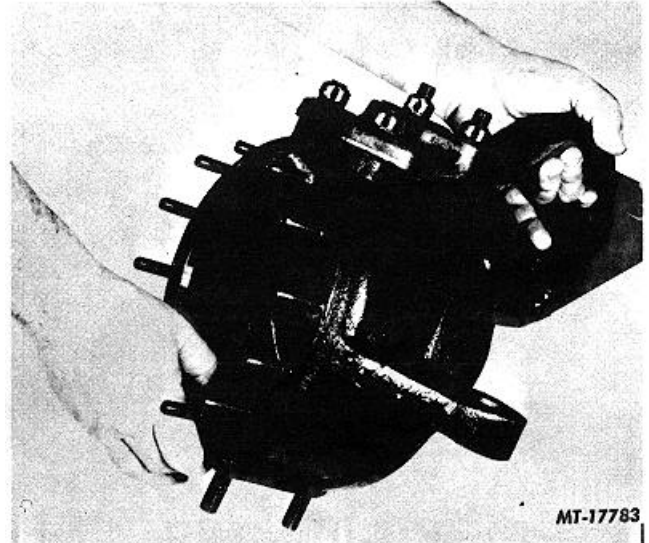

Fig. 7 Removing Trunnion Housing
The lower trunnion bearing will lay loose on bottom of trunnion housing when lower trunnion cap is removed. Remove lower trunnion bearing by pulling trunnion housing away from axle housing to provide access to bearing as shown in Figure 7.
- 7. Remove trunnion housing from axle housing by tilting bottom of trunnion housing out and pulling housing upward (Fig. 7).